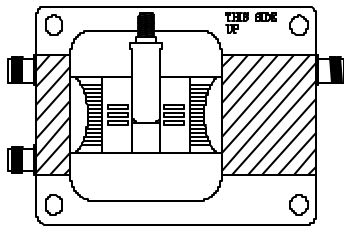

Figure 2- Template & Foot
**NOTE:** Clean glass with the alcohol pad and adhere coupling box. Clean the outside of the window with the same alcohol pad. Open packet of silane glass treatment and wipe glass to ensure complete coverage. Wipe dry with clean cloth. Remove the adhesive backing on foot and place over the left side of the coupling can (Refer to Figure 2- (Template & Foot)). If installing the antenna in below 60° F. The glass, tape and coupler should be kept warm 30 minutes prior to installation. A curing time of one hour above 60° F is recommended to achieve maximum bond between adhesive tapes and glass. Sti-co recommends using a hair dryer or heat gun to warm tape prior to placement of outside foot print.
1. **Foot Placement:** Place the template on the outside of window in such a manner, that if there are either defogger or AM/FM wires located in the glass, they do not fall in the cross hatched area. Be sure to place the template as high on the windshield as high as possible to insure that the grounding strap is long enough to be attached in the manner prescribed in figure 4. Attach the template to the window with scotch tape. Remove the protective backing on the antenna foot and place the foot thru the hole on the template as shown in figure 2.